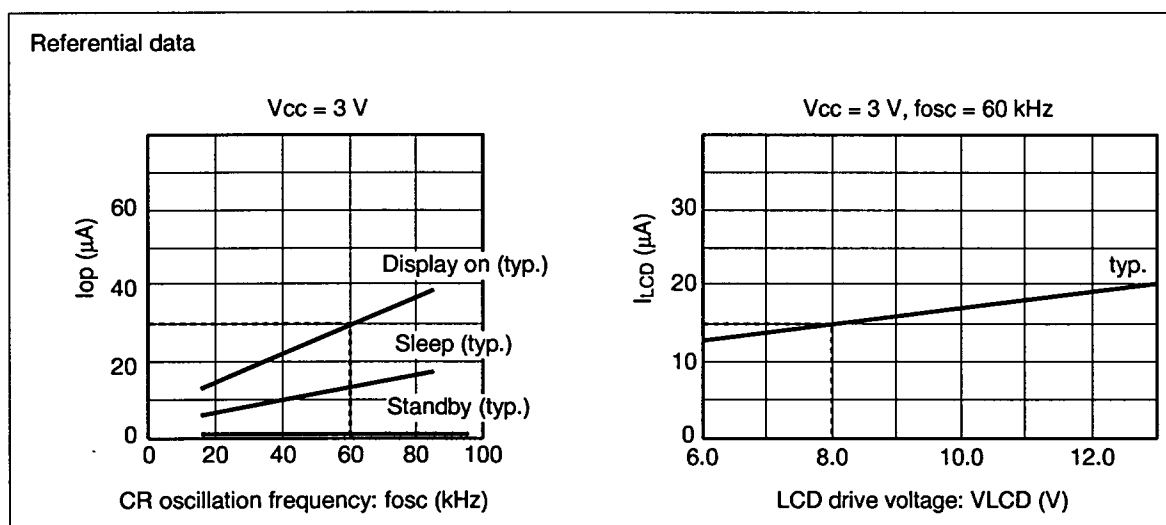

Figure 66 Relationship between the Operation Frequency and Current Consumption
11. The following shows the relationship between the operation frequency (f_{osc}) and current consumption (I_{cc}) (figure 66).